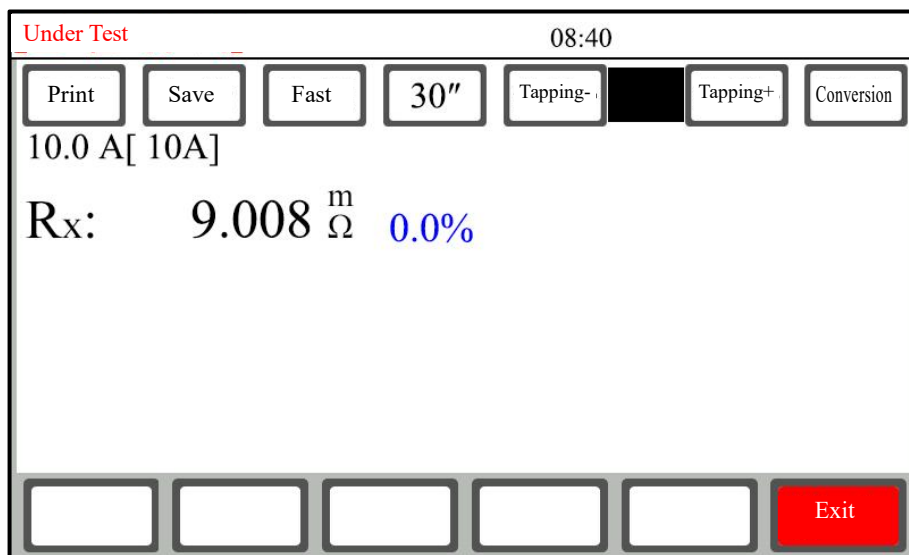

figure 9
After starting the test, the display indicates the test charge current value and prompts "Charging ...". The system clock starts timing to show when the test starts from charging. When the test current reaches the preset current and is stable, it prompts "Testing", then displays the test resistance value (RX), observes that the test current value and resistance value are stable, and the instrument is continuously tested (see Figure 9). 。 The instrument starts from the display of resistance data to reach the stabilization interval, which will prompt the percentage of the error of the current resistance data and the resistance data before the stabilization interval to determine the stability of